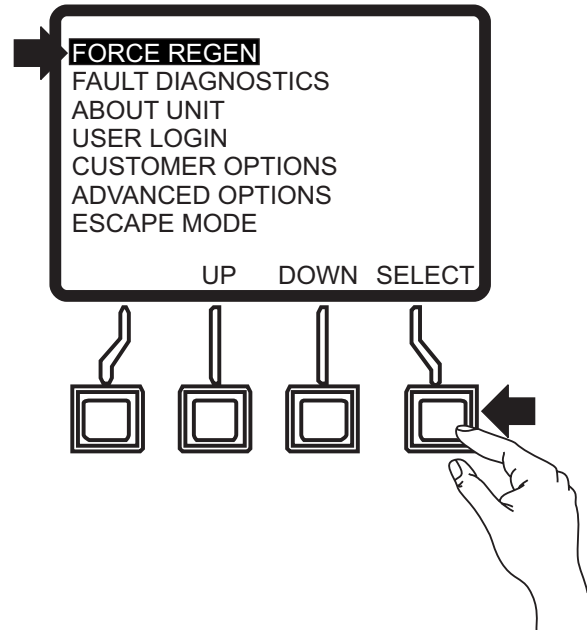

Figure 89. Force Regen Mode
2. Press the Program/Exit button on the ECU-845 Controller and select "FORCE REGEN" mode (Figure 89).